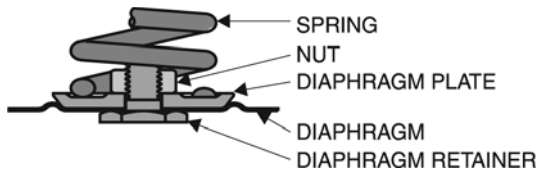

Figure 14 - Diaphragm Assembly for the Flowgrid® Series 20 & 20S Pilot.
1. Diaphragm Assembly: Install the Pilot Diaphragm with convex side toward Diaphragm Plate and Main Spring (Refer to Figure 14). Tighten nut on the Diaphragm Retainer to approximately 5 to 6 ft-lbs torque.